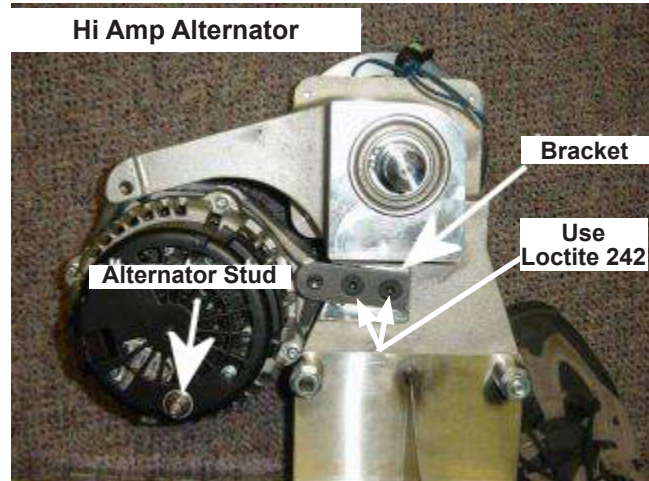
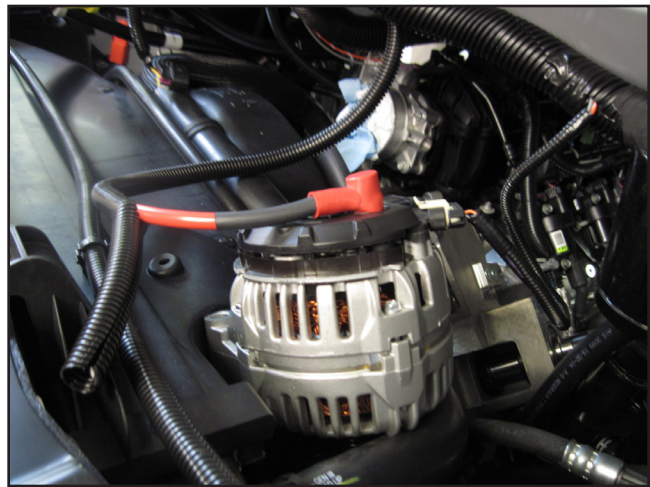

Figure 13. Rotate Alternator
Figure 14. Attach New Battery Cable
6. Move the 2 brackets to the appropriate set of holes depending on which alternator you are using. The bottom 4 holes are for the standard alternator and the top 4 holes are for the hi amp alternator. The alternator will need to be rotated so that the stud is on the bottom (see Figure 13).
9. Attach the new battery cable extension lead provided in this kit to the back of the alternator (see Figure 14). The end with the red boot will attach to the alternator stud (see Figure 13).